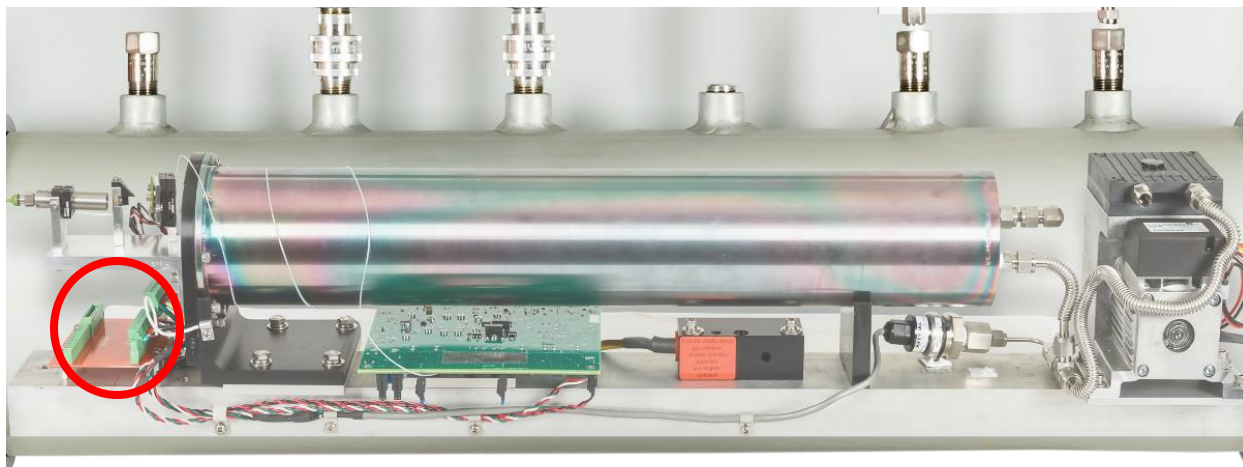

Figure 50: Wiring Connections
7. Locate the wiring connections shown in Figure 50. Make a note of these connections in order to ensure correct reassembly later.